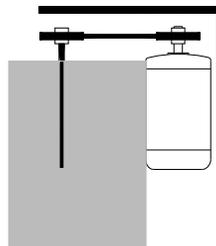

Fig. 7 – Pulley Alignment Method
4. Ensure pulleys are properly aligned. Refer to Fig. 7
A recommended method of inspecting the pulley alignment is shown in Fig. 7. With the shorter leg of a carpenter's square or other straight edge lying along the case of the motor, adjust the position of the motor pulley (or the motor) until the longer leg of the square is parallel to the belt. For more accuracy – use a laser alignment tool, if available. Read the instructions that come with the kit.